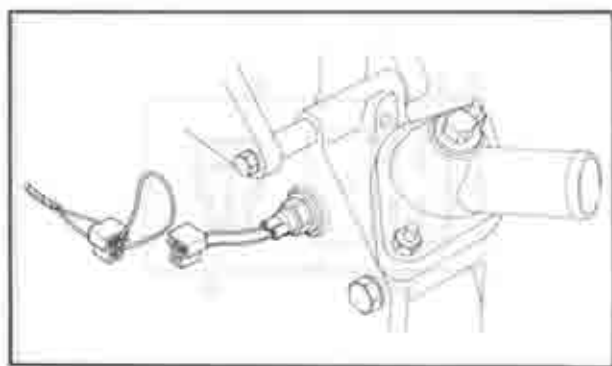

Fig. 1A-11 Connecting Jumper wire
3. Disconnect the coupler of the water temperature switch and connect a jumper wire to both terminals in the coupler (from control unit) as shown in Fig. 1A-11.